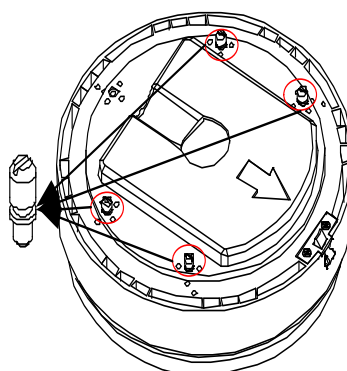

Figure 2-11 Install the Bolts
2. Install 4 bolts to the screw holes as shown in Figure 2-11.